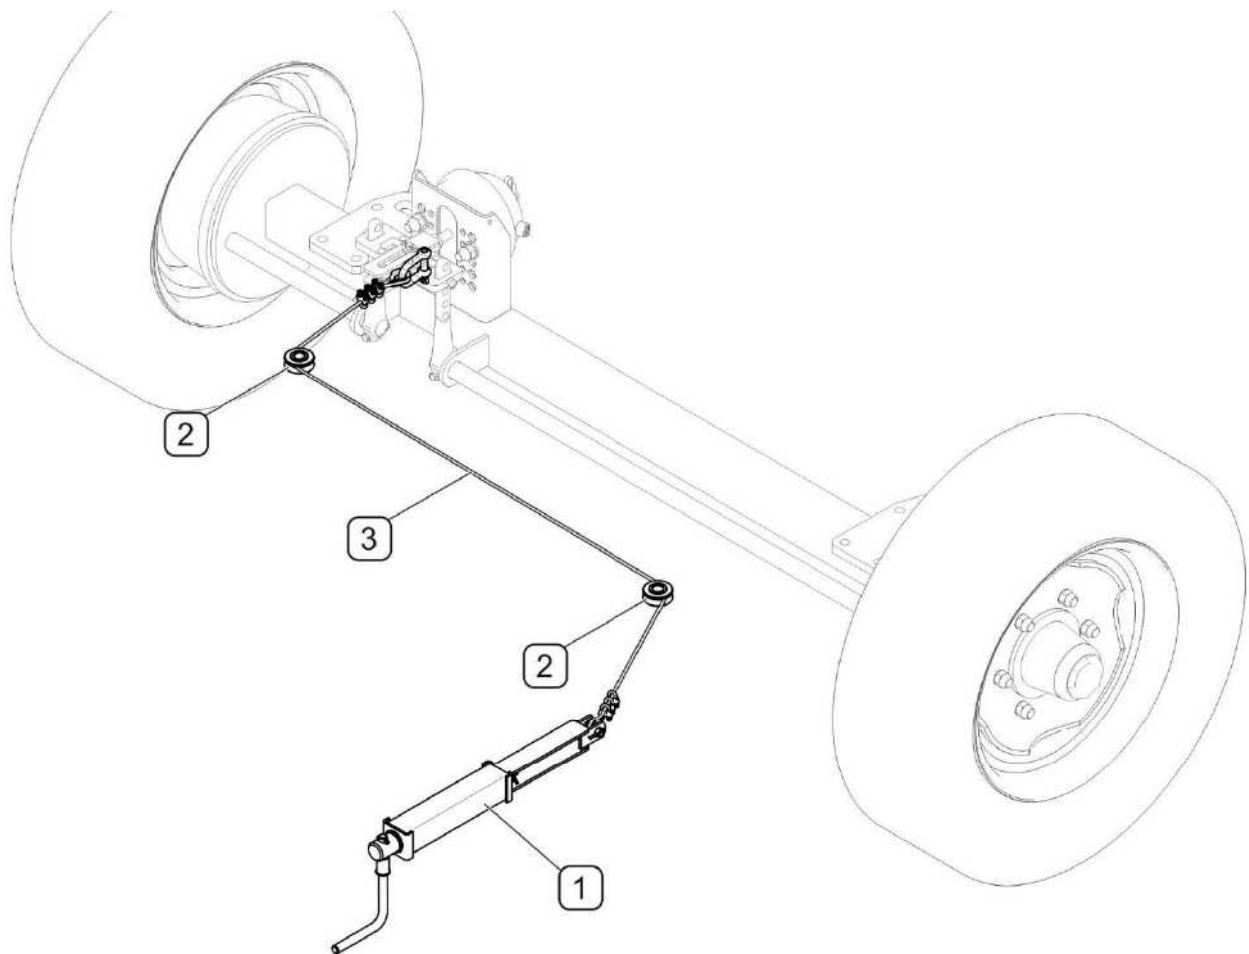

FIG. 3.7 Parking brake
(1) - brake crank mechanism; (2) - guide rollers; (3) - cable;
Parking brake (FIG. 3.7) control mechanism is located at the front, on the left side of the sweeper's frame, and is used for immobilising the machine while standing motionless. The brake is applied by rotating crank mechanism (1) clockwise. The mechanism tightens the steel cable (3) and causes tilting of the expander lever, which parts the jaws of the brake shoes immobilising the machine. In order to release the brake, turn the crank of the brake's mechanism anticlockwise.